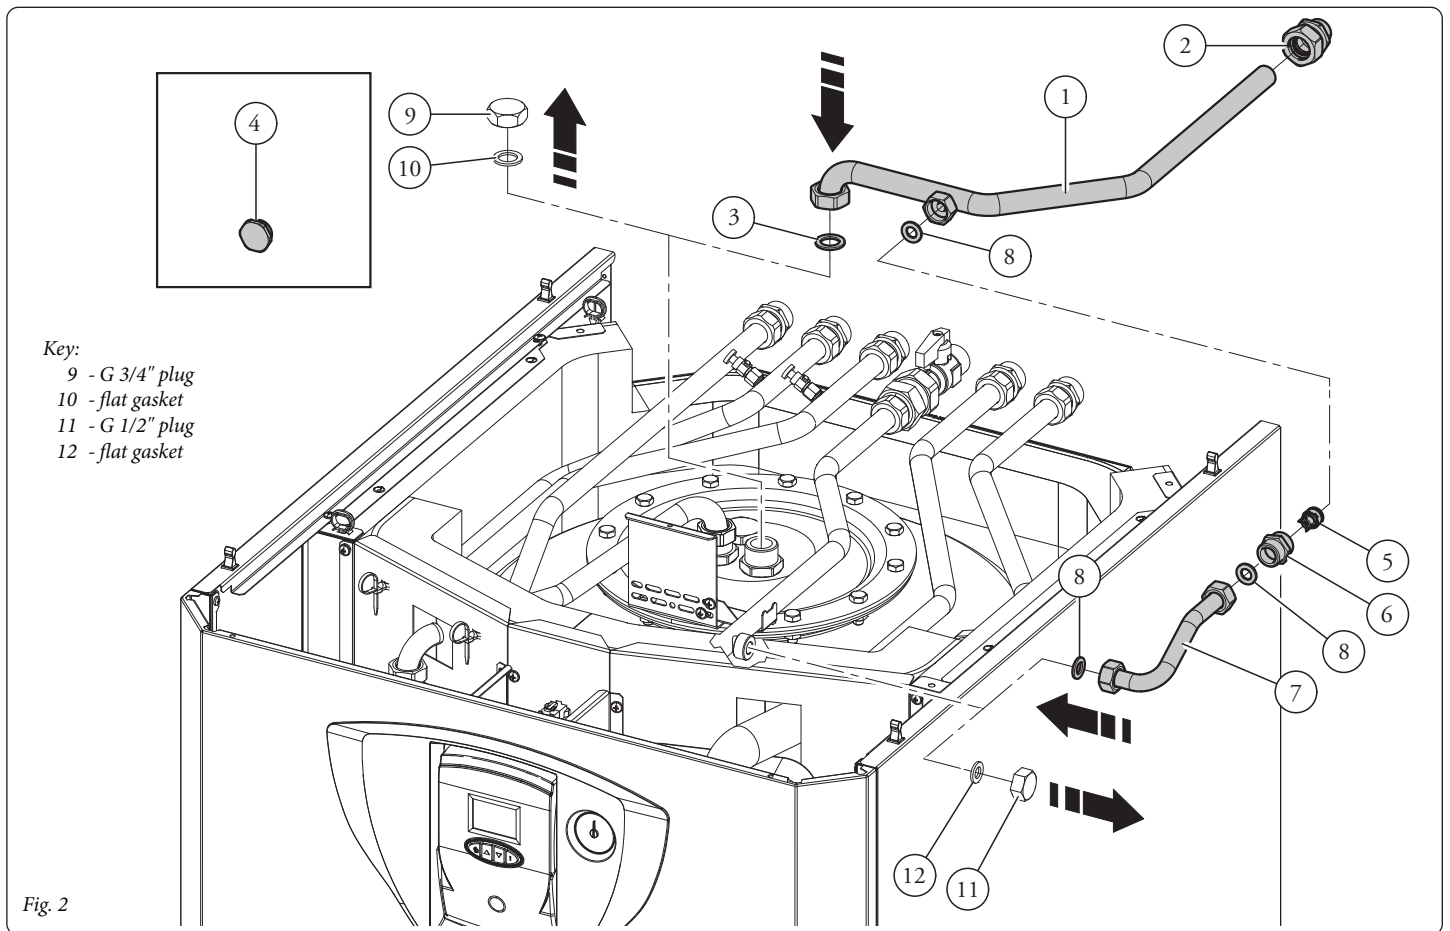

Fig. 2
- Remove the 3/4" plug (9) with its gasket (10) from the probe fitting located on the top flange of the storage tank unit.
- Remove the 1/2" plug (11) with its gasket (12).
- Connect the recirculation pipe (1) fitted with nut to the storage tank unit probe fitting, placing the flat gasket (3) included in the kit in between.
- Screw the nipples (6) onto the pipe (1) placing the non-return valve (5) in between. Connect the solar recirculation pipe (7) to the nipples (6). Make sure to place the flat gaskets (8) included in the kit in between.
- Connect the solar recirculation pipe (7) fitted with nut to the specific fitting, placing the flat gasket (8) included in the kit in between.
- Connect the recirculation pipe (1) to the DHW recirculation system by means of the 1/2" radial seal fitting (2) included in the kit.
N.B.: the component (fig. 2 pos. 4) is not used in this installation.